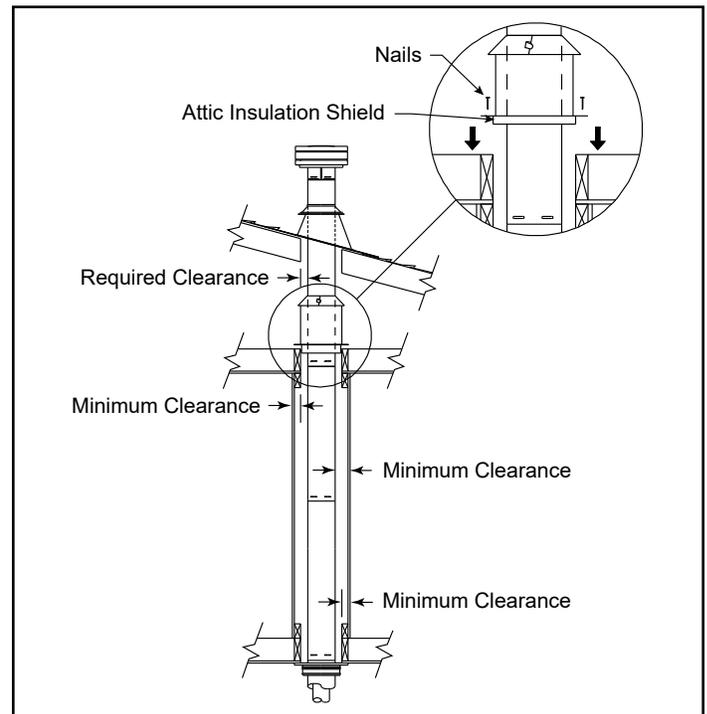

Figure 3.38
3. If venting system passes through an attic space an attic insulation shield must be installed to prevent contact between pipe sections and the insulation. Nail the base to floor of attic and adjust shield for appropriate insulation level, then attach the collar at the top of assembly, Figure 3.38. For vaulted ceilings, the attic insulation shield cannot be installed. To prevent building insulation and other debris from entering the support box or contacting the pipe, a chase enclosure can be constructed around the support box. Ensure proper clearance to combustibles are maintained.